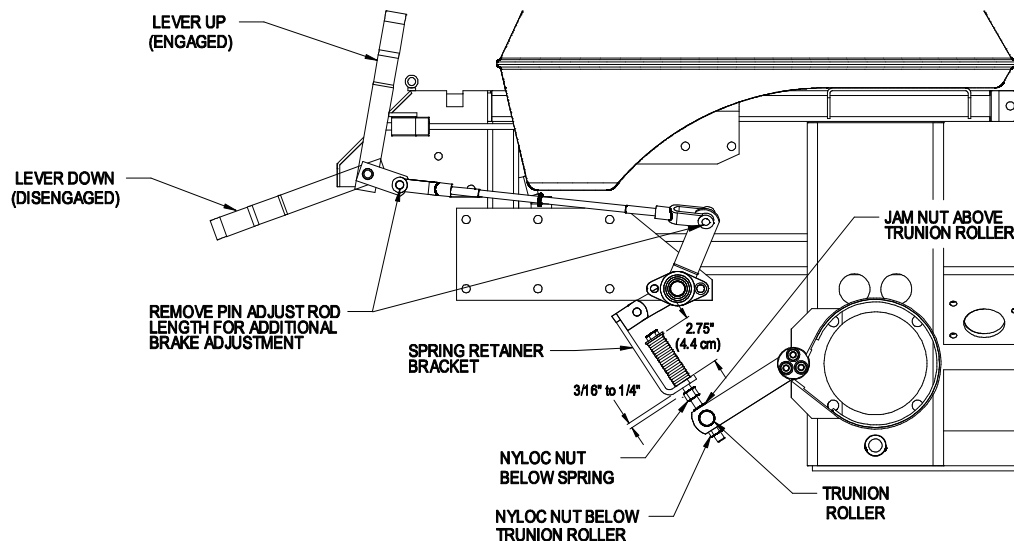

FIGURE 16
- Measure the length of the spring. Measurement should be 2.75" (7 cm) (See Figure 16).